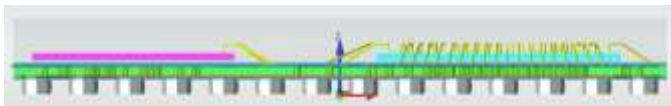

Fig. 1. Cross-sectional view of a substrate-based IC package.
- Substrate-based integrated circuits (IC) packages in Fig. 1 have stack-up made of a core dielectric material, prepreg material, copper traces and vias for the input-output (I/O) signal connections, and covered with top and bottom soldermask material